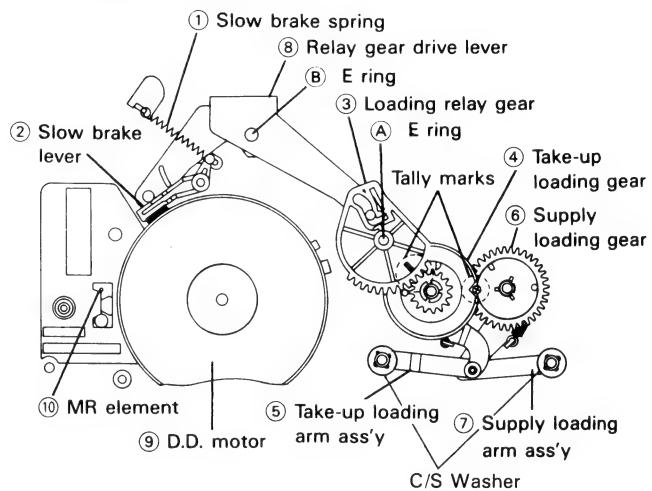

Figure 1-31.
2. In reassembling, match the tally marks on the gears, as shown in Fig. 1-31
1. Place the relay gear drive lever in the unloading state as shown in Fig. 1-31.
2. Set the relay shifter lever ④ to the main chassis; the shifter lever should be adjusted to the reverse guide spring hole in the main chassis. Then place the master cam so that the cut-off part of the boss ④ should face the direction of arrow ⇒ ⑤.
3. Place the half-loading reciprocating lever ① so that its cam follower comes in the outermost cam groove. Now attach the E ring ④.